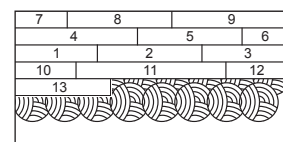

Figure 10d
- Be sure not to spread adhesive too far ahead of your work area (Figure 10d).